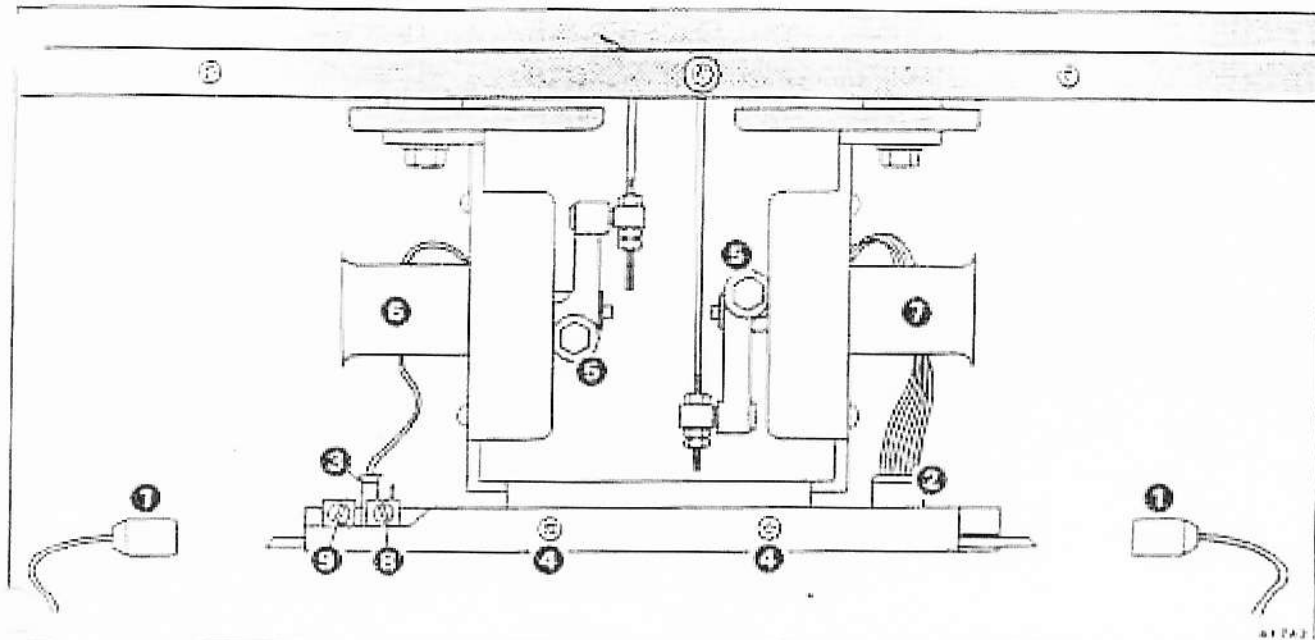
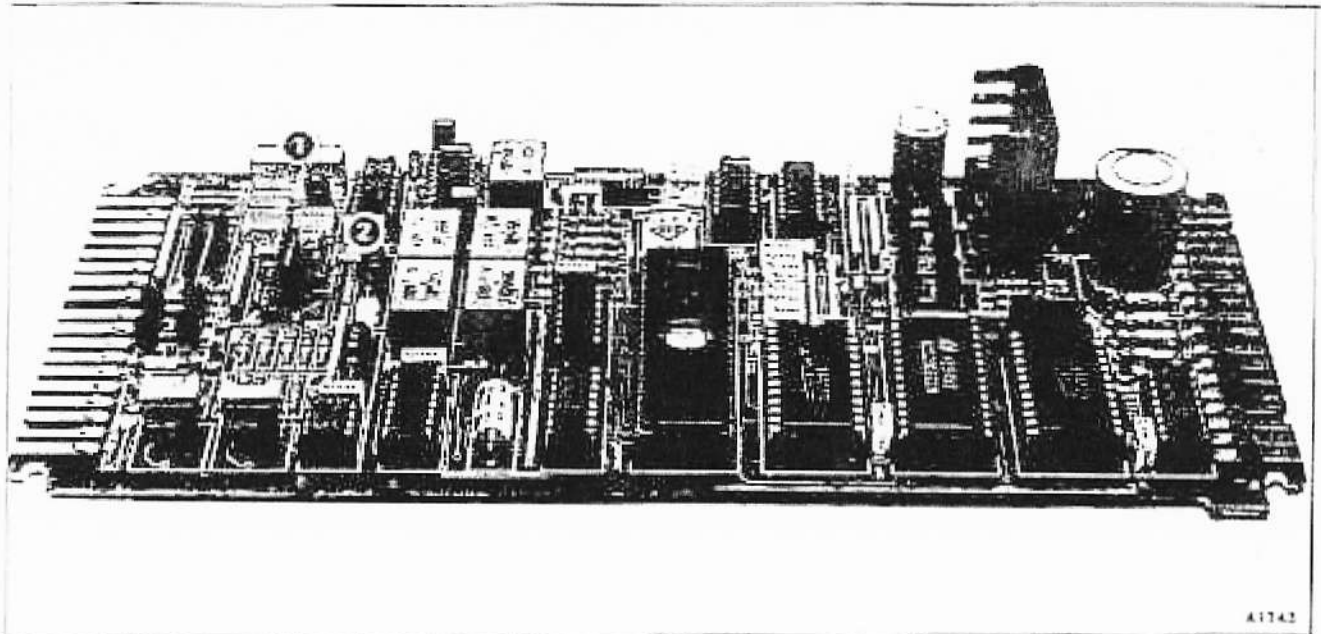

Fig. C4-4 Micro-processor and blend flap actuators assembly
Fig. C4-5 Air conditioning micro-processor board
#### Micro-processor board – To remove (see fig. C4-4)
#### Micro-processor initializing procedure (refer to figs. C4-4 and C4-5).
3. Fit the micro-processor board test pins link RH 9884 DET 2 or bridge the test pins (see fig. C4-5 item 2).
4. Slacken the actuator arm securing bolts at the upper and lower blend flap actuators (see fig. C4-4 item 5).
6. Select OFF position at the air conditioning function switch on the facia. The lower blend flap actuator (see fig. C4-4 item 6) will operate and continue to operate during procedure 7.
7. Rotate the lower blend flap potentiometer (see fig. C4-4 item 8) throughout the full range of its travel, noting the portion of travel for which the LED (light emitting diode) on the micro-processor board (see fig. C4-5 item 1) illuminates.
9. Rotate the upper blend flap potentiometer (see fig. C4-4 item 9) throughout the full range of its travel, noting the portion of travel for which the LED on the micro-processor board illuminates.
11. Tighten the actuator arm securing bolts at the upper and lower blend flap actuators (see fig. C4-4 item 5).